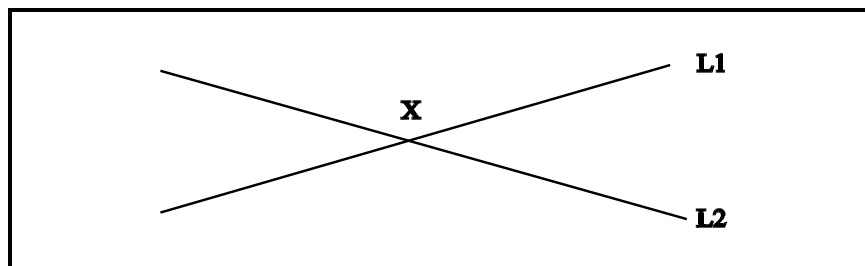

Figure 2: True intersection
True intersection: When two vectors cross each other, the crossover point (X) is called a **true intersection** (see **Figure 2**).